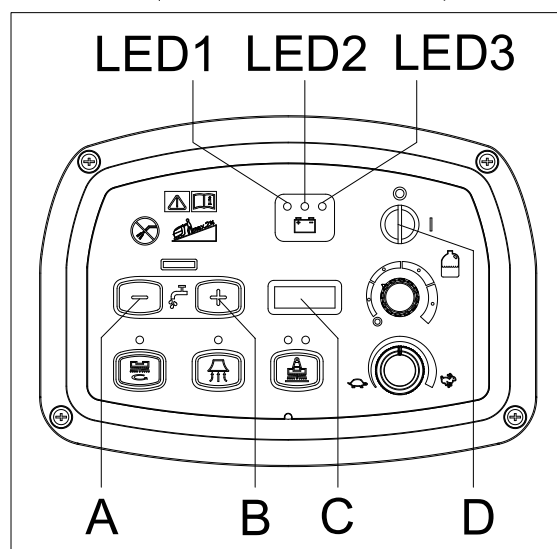

Figure 4
1. Press both the buttons (A, Figure. 4) and (B) at the same time, Insert the ignition key (D) and turn on the power, after 0.5 second, enter battery setting mode. LED display during setting( C ),Release the buttons.
2. The mode can be shift from 0 to 5 by pressing button (B), or shift from 5 to 0 by pressing button (A). After the battery mode setting is completed, turn off the power (D) and the new setting of battery mode can be saved automatically.